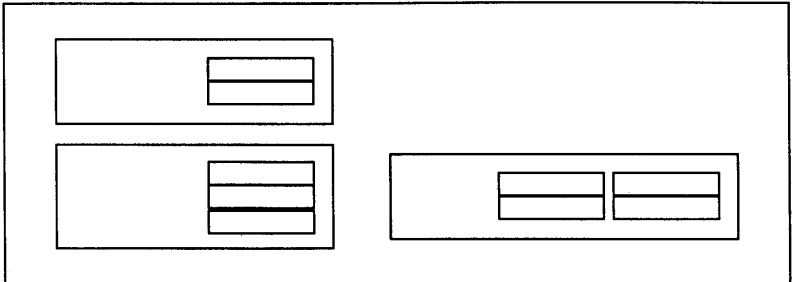

Figure 1-6. Selecting a 5.25 inch Half-Height Slot
- c. Select the 5.25 inch half-height slot in which to install your SQ555 and remove any retaining hardware already installed in the drive slot. You can install the drive in any available slot; however, SyQuest recommends that you mount the SQ555 in the bottom slot. Also, when you select a slot, be sure to allow enough space for air flow along the printed-circuit board assembly. For example, mount the SQ555 next to a floppy disk drive, not another fixed disk. Some standard configurations are shown in FIGURE 1-6.